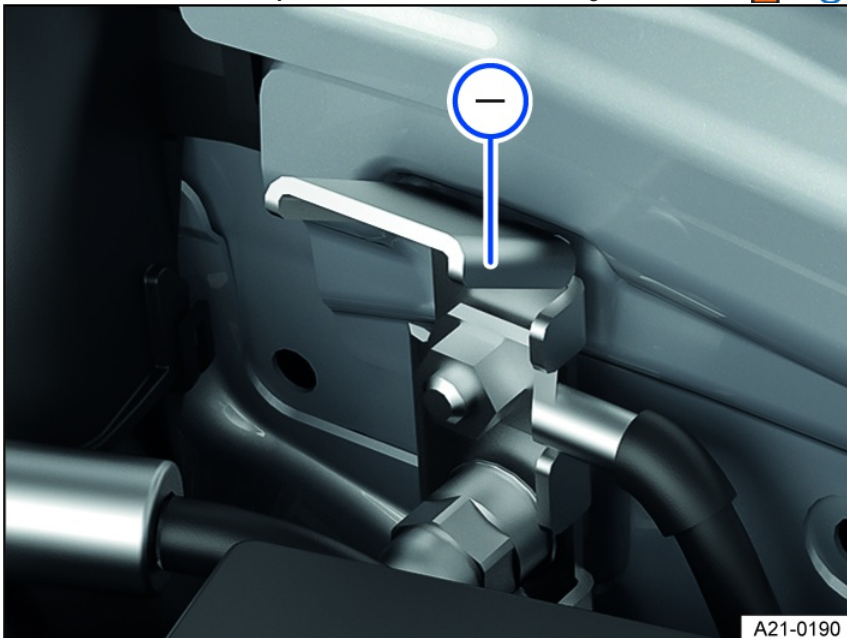

Fig. 160 In the engine compartment: Negative terminal jump-start point.
□ The jump-start point (negative terminal) is for connecting the black jumper cable *fig. 160*.